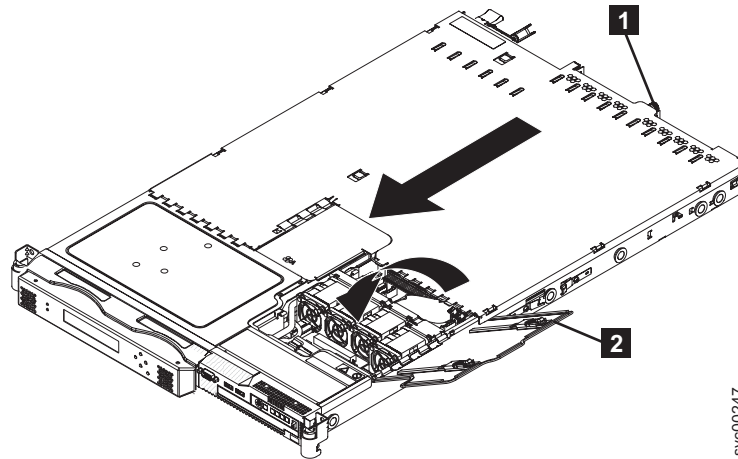

Figure 55. SAN Volume Controller 2145-8G4 with the fan door open
3. Tighten the thumbscrew **1**, which is shown in Figure 55 on page 73, until the cover correctly engages all the inset tabs on the SAN Volume Controller 2145-8G4.